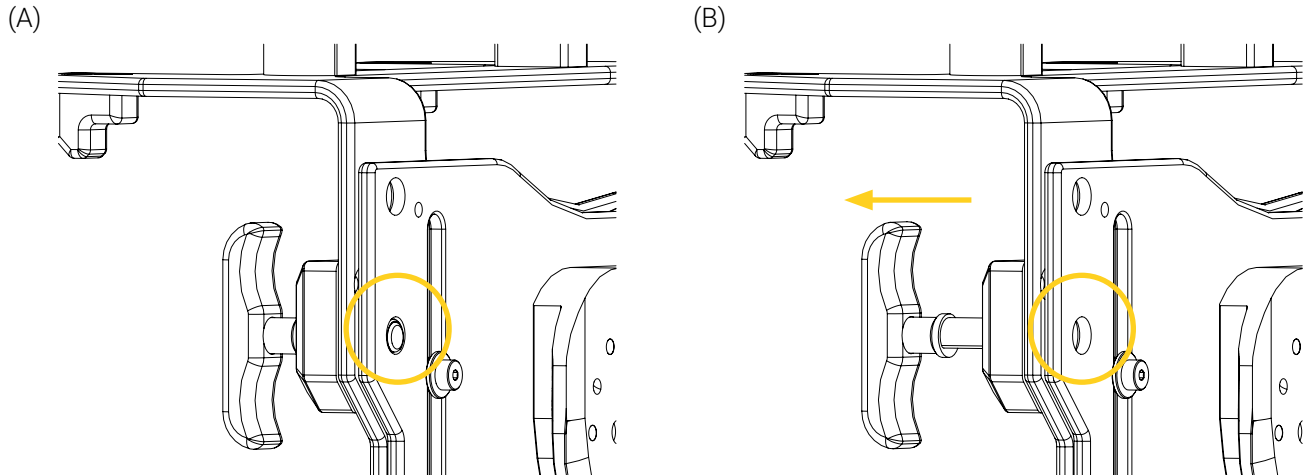

Figure 6: Unlocking the BP75–FL MCD
1. Pull and hold the spring-loaded quick-release pin forward to unlock the mounting bracket (Figure 6).